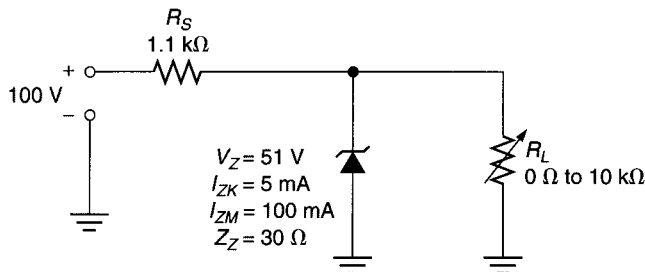

FIGURE 3.62
44. For the circuit shown in Figure 3.62, determine the total circuit current.
45. For the circuit shown in Figure 3.62, determine the value of  $I_Z$  for  $R_L = 5\text{ k}\Omega$ .
46. For the circuit shown in Figure 3.62, determine the minimum allowable value of  $R_L$ .